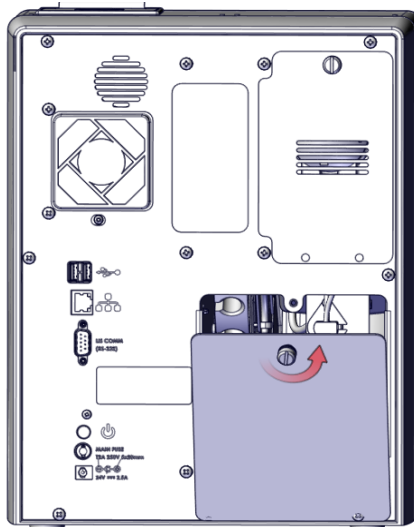

Figure 2
1. Remove needle access door by unscrewing metal thumb screw and lift door upward to remove. See Figure 2.